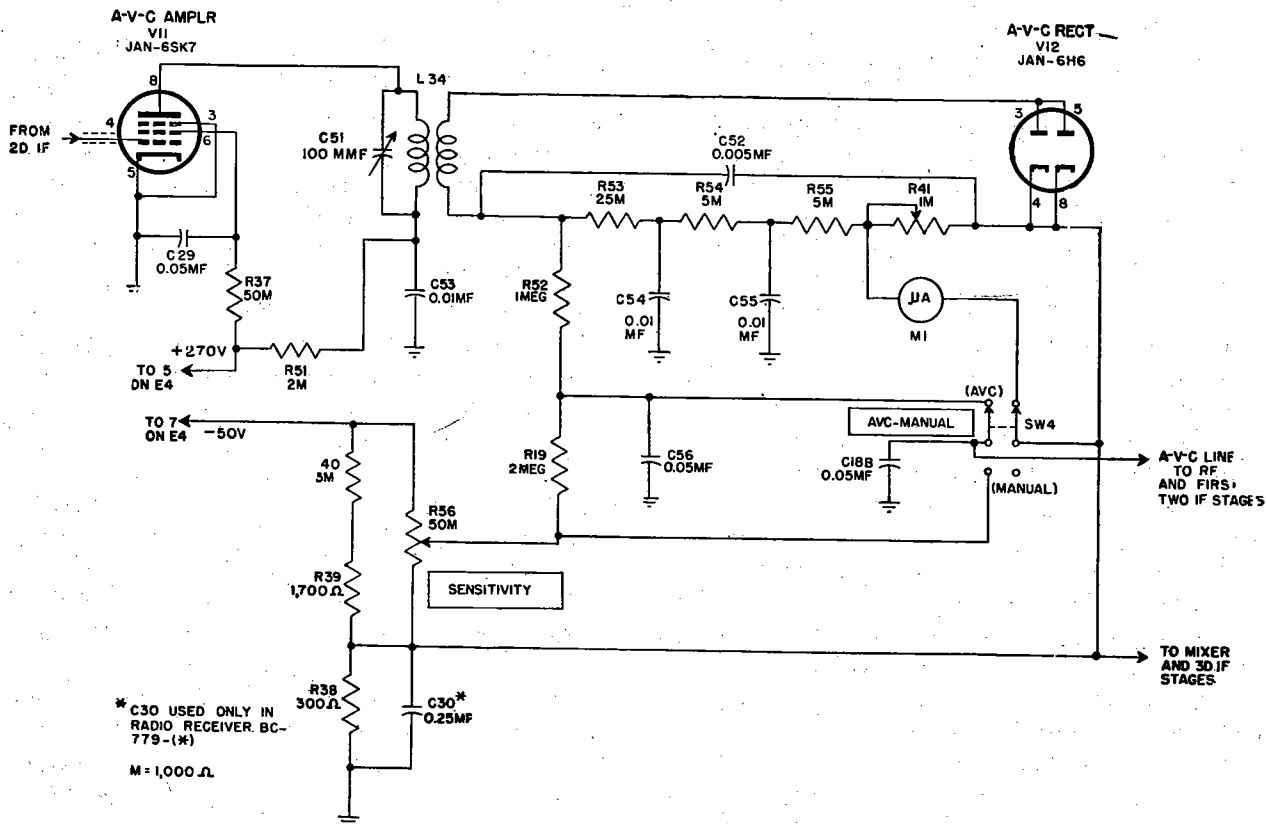

Figure 31. Radio Receiver BC-779-B, functional diagram of a-v-c stages.
a. *MIXER TUBE JAN-6L7.* For simplicity, capacitor C71, main tuning ganged capacitor C1C, and band spread ganged capacitor C2C are represented as a single variable capacitor C across the inductance trimmed secondary of r-f transformer L18. Signal voltages across C are applied through 600-mmF capacitor C11 to signal grid G1 (top cap) of pentagrid mixer Tube JAN-6L7. Fixed bias from the voltage divider (fig. 31) is applied through a filter circuit (10,000-ohm resistor R10 and 0.01-mf capacitor C12) and 500,000-ohm grid resistor R9 to the signal grid. Screen grid G2 and G4 (pin 4) forms a screen about injection grid G3 (pin 5), and the h-f oscillator output is coupled through 95-mmF capacitor C13 to the injection grid. Since the screen grid shields the signal and injection grids from one another, the tube electron stream is modulated independently by the r-f and oscillator signals. Heterodyne action produces sum and difference frequencies in the mixer output. The primary of transformer T1 is tuned by C21 to the 465-kc *difference* frequency to which the i-f amplifier is also tuned. The i-f voltage across the secondary winding of transformer T1 is applied to the crystal filter.
65. A-V-C Circuit (fig. 31)
and to the control grid (pin 4) of the a-v-c amplifier stage V11 (fig. 31). V7 and V11 have a common grid circuit, including fixed bias. The suppressor and cathode of V11 are grounded; screen voltage is applied to pin 6 through 50,000-ohm series-dropping resistor R37; and the screen is bypassed by 0.05-mf capacitor C29. Plate (pin 8) voltage is applied through 2,000-ohm filter resistor R51 and the primary of transformer L34. The primary of L34 is tuned to 465 kc by 100-mmf capacitor C51, and capacitor C53 (0.01-mf) bypasses high frequencies to ground. The transformer secondary is untuned.